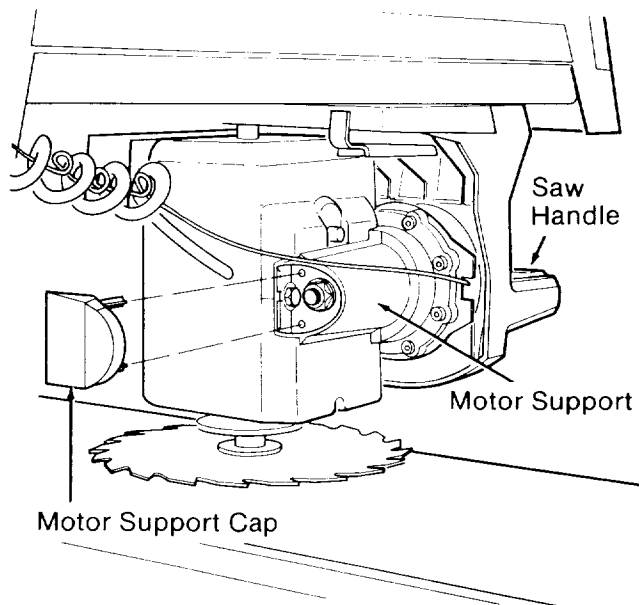

Fig. 88
18. Snap the *motor support cap* into the back of the *motor support*. The *cap* is in the loose parts bag. (Figure 88)